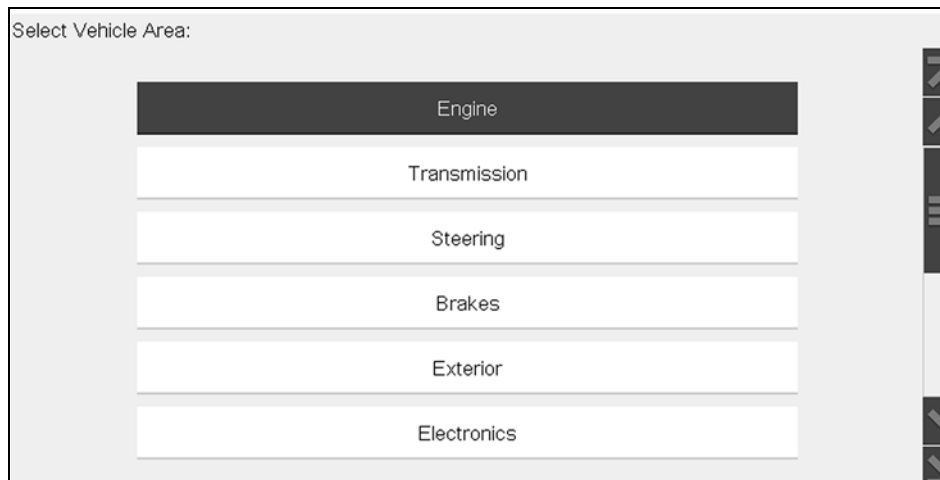

Figure 7-5
2. Select a vehicle area, (e.g. **Engine, Transmission, Brakes**, etc) (Figure 7-5).